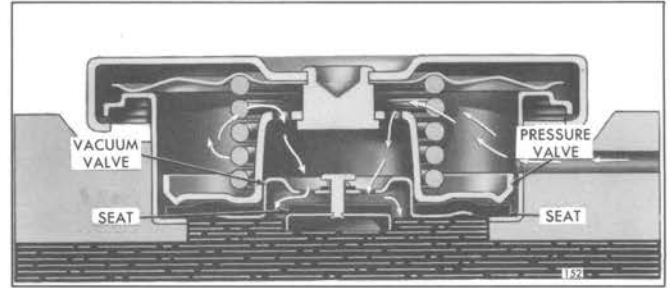
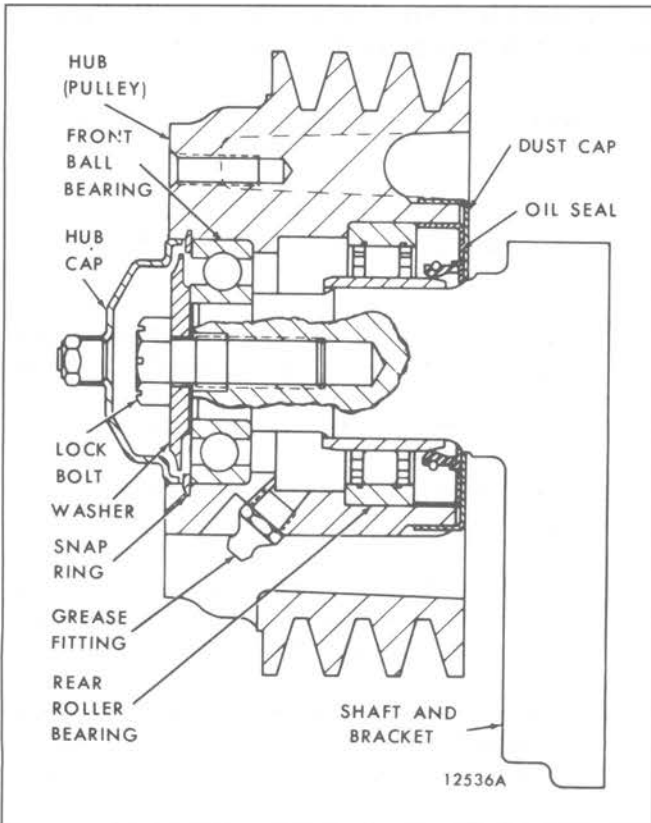
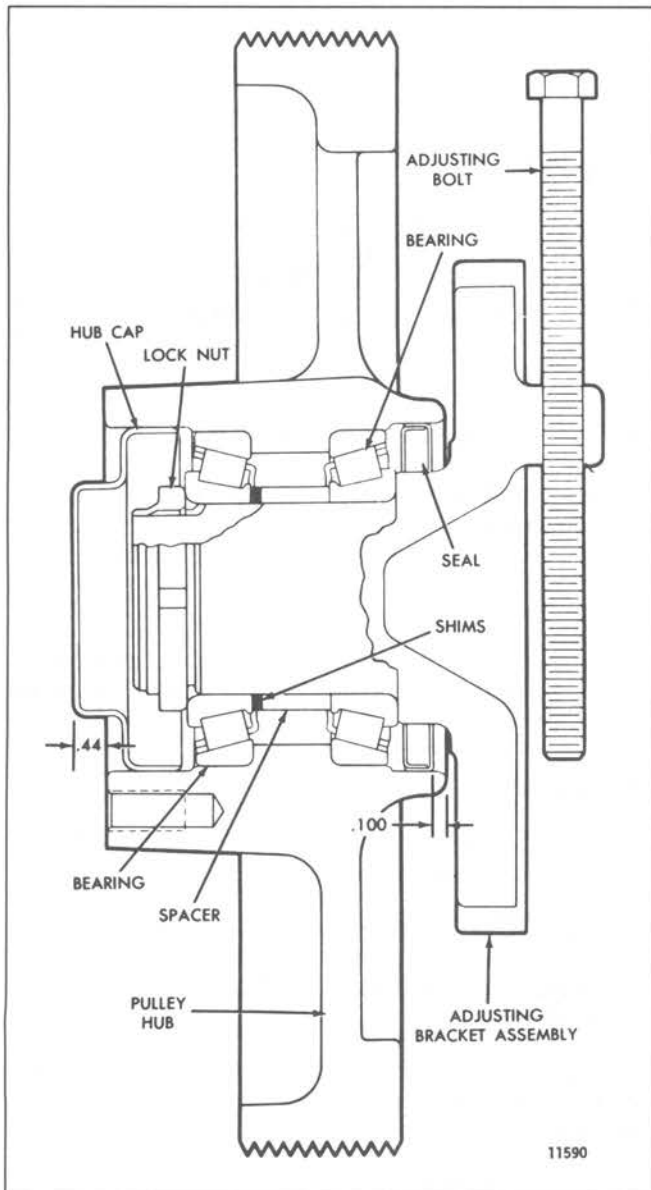

Fig. 2 – Pressure Control Cap (Vacuum Valve Open)
Fig. 3 – Three Groove Pulley Hub (Current)
Fig. 5 - Typical 16V Engine Poly-V Groove Pulley Hub and Adjusting Bracket
The three groove pulley hub (Fig. 2), used on 6V, 8V and certain 16V engines, turns on a double-row ball bearing at the front and a single-row (shielded) ball bearing at the rear of the hub. A new three groove pulley hub, for all engines including the 12V engines, turns on a front ball bearing and a rear roller bearing and also includes a hub cap (with relief valve), a dust cup and a grease fitting (Fig. 3). On 6V and 8V compact front end engines, the pulley hub turns on tapered roller bearings (Fig. 4). The Poly-V groove pulley hub used on some 16V engines turns on two single-row tapered roller bearings (Fig. 5).
Assemble Three Groove Hub And Bracket (Fig. 3)–Current
3. Press a new oil seal in .100" from the end of the pulley hub (Fig. 5).
11. Fill a new hub cap 75% (minimum) full of grease and install it in the pulley hub (Fig. 5).